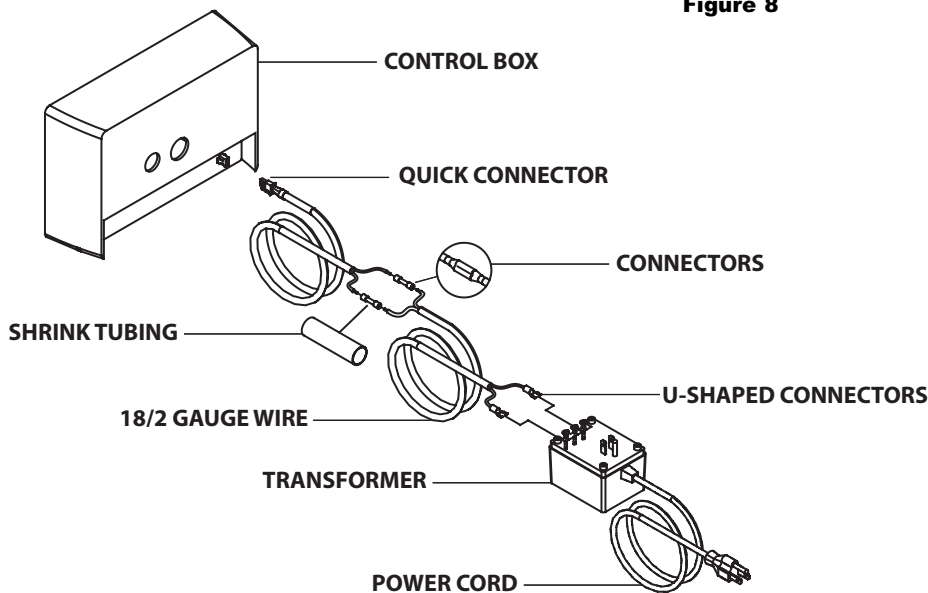

Figure 8
- Attach the U shaped connectors (supplied) to the wire with a crimping tool (not supplied), then connect the wire to the two outside terminals on the transformer (see figure 8).
- Insert the other end of the wire, with the quick connector, into the back of the control box (see figure 8).